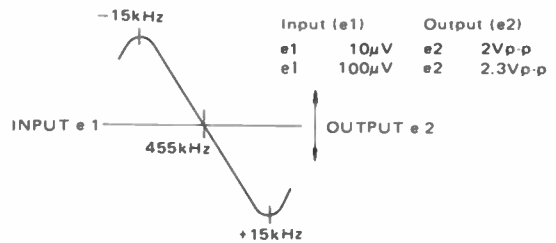

Figure 3. IF DISCRIMINATOR CURVE
Step 3: Adjust IF Section T2, T3 and T4 for best linearity and so that the 455 kHz marker is in the center of the discriminator curve as shown in Figure 3.